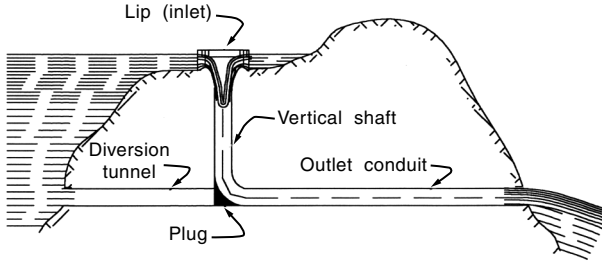

FIGURE S-6 Spillway (shaft).
**Spent water** The portion of the community water supply that is discharged in sewers or individual disposal units. With infiltration and inflow, it constitutes wastewater. It is the difference between the water supplied and various other uses, such as fire fighting and lawn watering. *See also return flow* (2).
**Spillway** A waterway, like an open or closed channel, in or about a dam, canal, or other hydraulic structure to convey surplus water, thus protecting the structure and its appurtenances from damages by major floods. It is often a rectangular concrete channel conveying water at supercritical velocity and such that the bottom of the channel approximates the underside of the nappe of a corresponding sharp-crested weir. The spillway may also serve to regulate the reservoir level. Its principal components are (1) a flow regulation structure such as a weir, (2) a discharge channel to convey the outflow, and (3) a terminal or energy-dissipating element. A **controlled spillway** has crest gates to adjust the outflow. The following characteristics or elements pertain to spillways: apron, auxiliary spillway, bucket, cavitation, chute, chute spillway, drop-inlet spillway, emergency spillway, energy dissipation, face, gate, gravity spillway, labyrinth spillway, lateral spillway, lip, morning-glory spillway, ogee spillway, overflow spillway, rating curve, service spillway, shaft spillway, side-channel spillway, siphon spillway, spillway channel, spillway dam, stepped spillway, stilling basin, tailrace, toe, trough, tunnel. *See Figures S-6 through S-9.*